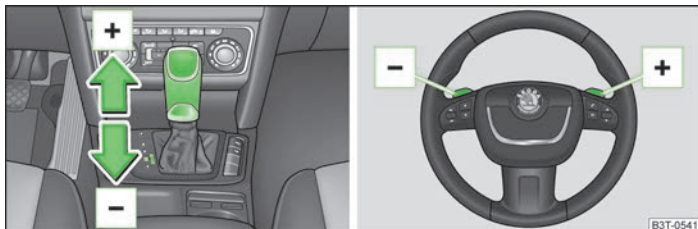

Fig. 127 Selector lever and multifunction steering wheel
- Press the selector lever forwards **+** » Fig. 127.
- Press the selector lever backwards **-** » Fig. 127.